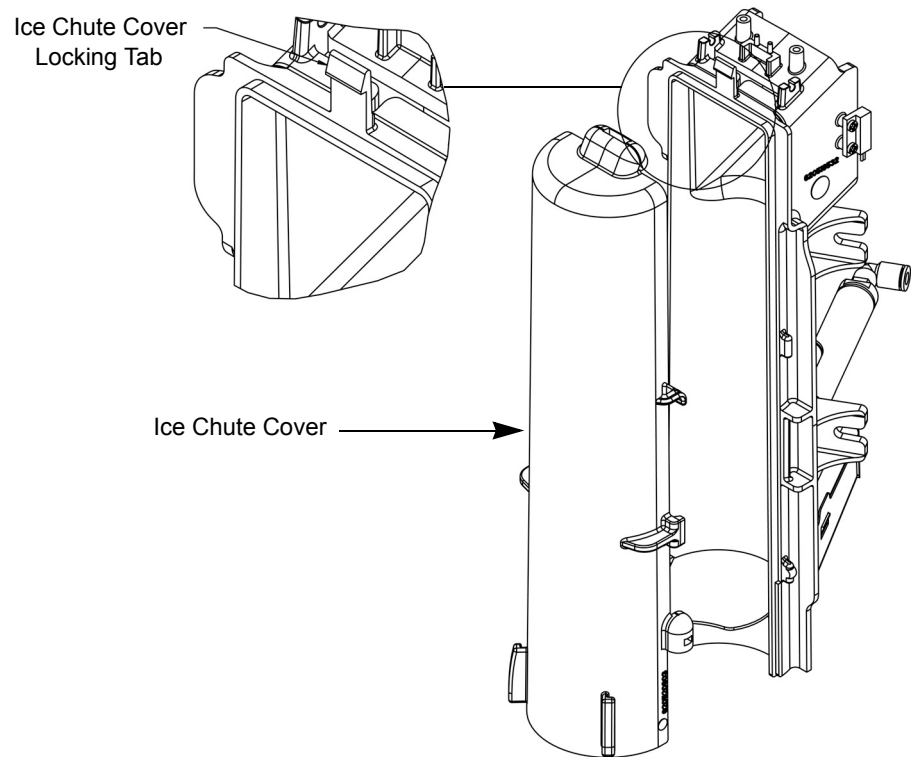

Figure 4
1. Press and hold the "P" and "UP" buttons for five (5) seconds to enter purge mode. LED displays "Purg".
3. Press and hold the "P" button for five (5) seconds to exit the purge mode.
5. Remove the ice chute cover from the ice chute by pushing the black locking tab (Figure 4) back and sliding the ice chute upward and out.